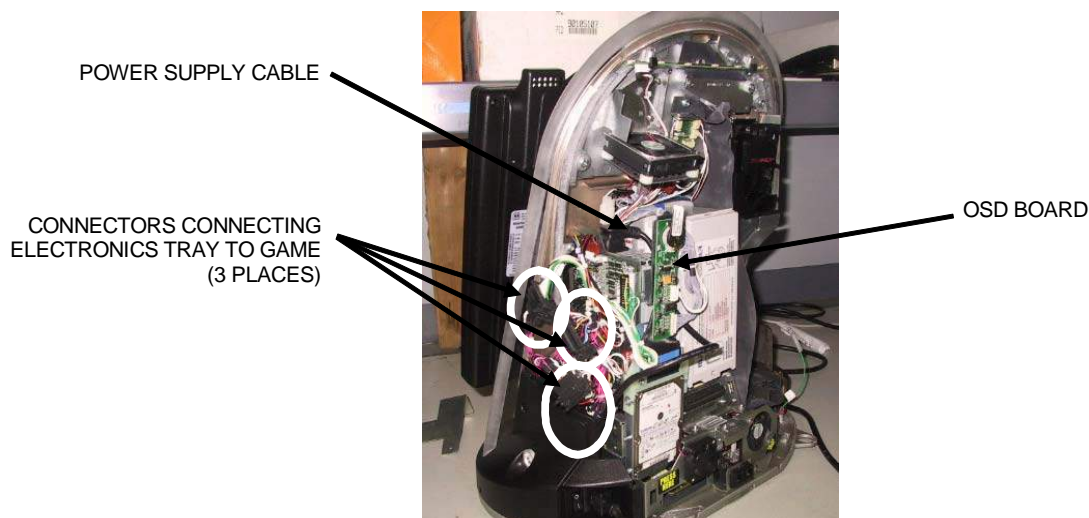

FIGURE 11 - REAR VIEW OF GAME
13. It may be beneficial to remove any connection to the motherboard, OSD board, or power supply that prevents you from fully moving the electronics tray out of the way. If you choose to do this, however, please be sure to note which cables you removed and where on the motherboard you removed them from. If applicable, disconnect the three black connectors (10-, 11-, and 12-pin) connecting the electronics tray to the game in order to slide the tray out further (see Figure 11). If your game does not have these connectors, the harness is long enough to remove the tray.
32. Reconnect any cables that you removed from the motherboard, OSD board, or power supply when you slid the electronics tray from the system. Additionally, if you disconnected the three black connectors (10-, 11-, and 12-pin) that connect the electronics tray to the game, you should reconnect these now (see Figure 11).